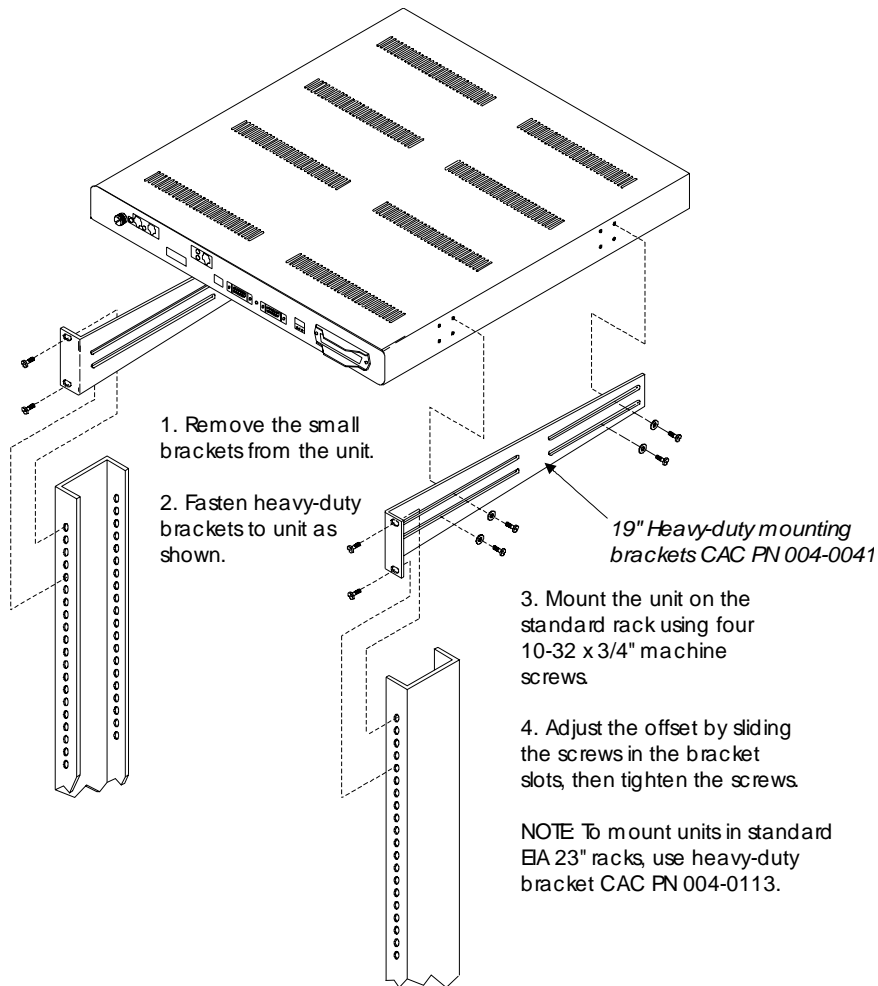
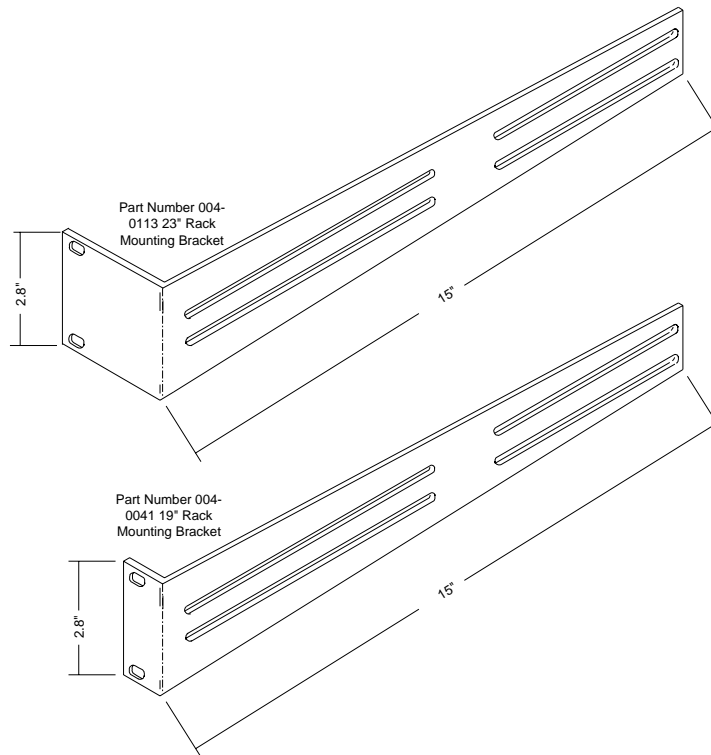

Figure 4-3: Rack Mounting on a 19" Rack Using Heavy-Duty Brackets
Figure 4-4: Optional Heavy Duty Brackets
3. Mount the chassis using 10-32 x 3/4" machine screws appropriate for a Telco rack (Figure 4-3).
Note: The optional heavy-duty rack mounting brackets (see Figure 4-4) can significantly increase static strength and provide a custom front-to-back offset when mounting the units on either 19" or 23" racks (see Figure 4-3).
2. Attach the heavy-duty brackets to the Access Bank II - SNMP using the screws included in the heavy-duty bracket kit (see Figure 4-3).
4. Mount the chassis on the rack using 10-32 x 3/4" machine screws appropriate for a Telco rack (Figure 4-3).